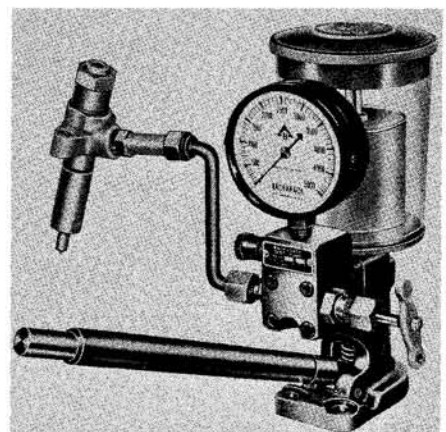

Fig. FO523—To completely test an injector nozzle requires the use of a tester as shown.
**39. NOZZLE TESTER.** A complete job of testing and adjusting the injector requires the use of a special tester such as shown in Fig. FO523. The nozzle should be tested for opening pressure, spray pattern, seat leakage and leak back.